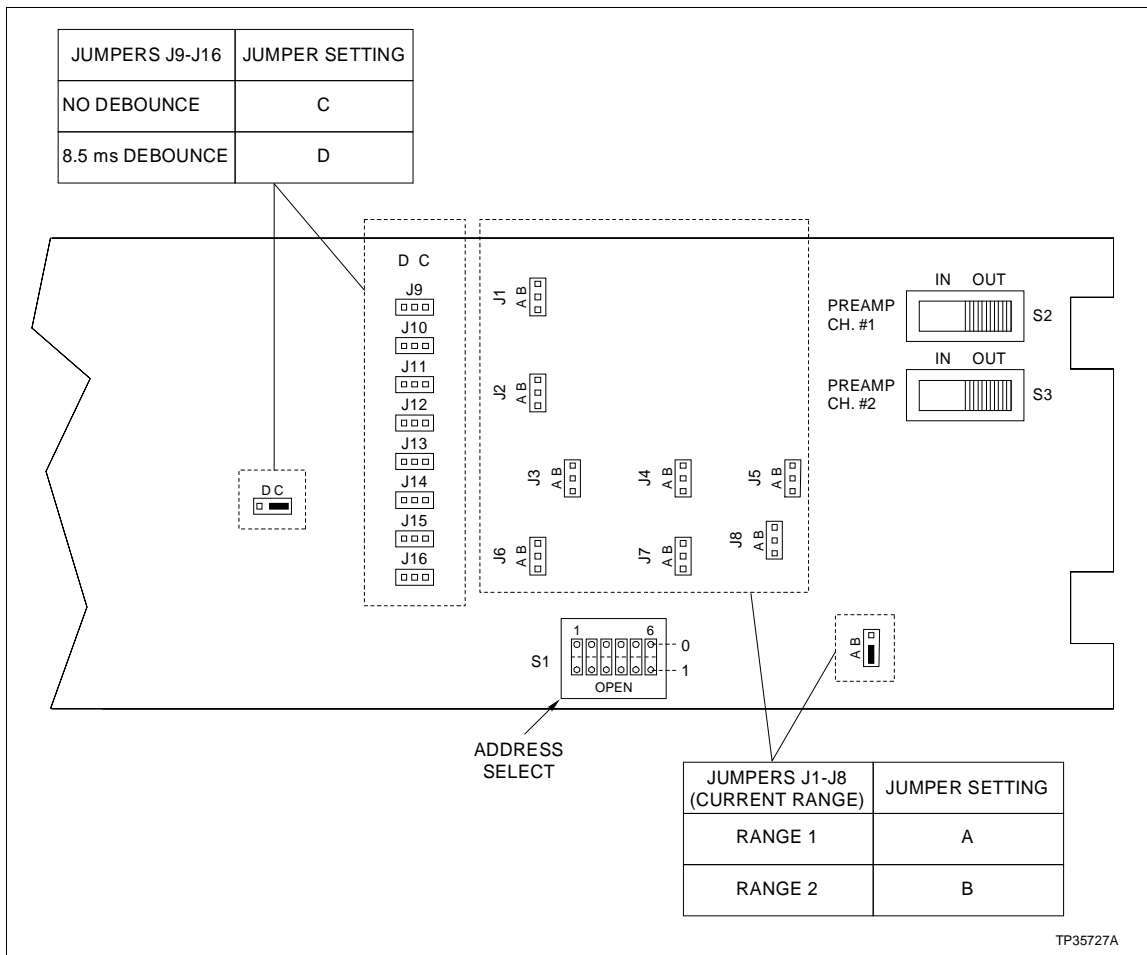

Figure 3-1. Switches and Jumpers
Before installation, set the address of the DSM and install jumpers to configure the inputs. Configure the Termination Unit (TU) or Termination Module (TM) to accept the field device signals. Figure 3-1 shows the positions of the switches and jumpers on the DSM circuit board:
Set the address through an eight position address dipswitch (S1), shown in Figure 3-1. The six right switch positions (3 through 8) of S1 set the six bit address. The unused positions (1 and 2) remain in the closed position (see Figure 3-1). Table 3-1 is a binary address conversion table for setting S1.
Use switches S2 and S3 to route the channel 1 and channel 2 inputs through preamplifiers on the DSM. S2 and S3 route low level input signals. With a preamplifier switched in, the respective input will register a logic 1 for a differential voltage of 25 millivolts peak, and allows inputs of up to 5 volts peak. Figure 3-1 shows the position of S2 and S3 on the DSM. To use a preamplifier for an input, move its slide switch to the in position, shown in Figure 3-1. S2 switches the preamplifier in or out of input channel 1 and S3 switches the preamplifier in or out of input channel 2.
Jumpers J-1 through J-8 set the input voltage levels and jumpers J-9 through J-16 set the DC voltage response time (speed). The DC inputs have two propagation (speed) choices to allow for debounce time: a slow response setting (8.5 millisecond debounce time) or fast response setting (no debounce time). There are three terminals at each jumper location. Refer to Tables 3-2 and 3-3 to select the jumper settings for your application; place a jumper across the pins shown in the table. Figure 3-1 shows the location of the jumpers on the DSM.
There are two input voltage ranges to select by jumpers J1 through J8. Range 1 will register a logic 1 for an input of 4 VDC up to 6 VDC. Range 2 will register a logic 1 input for a voltage level of 21 VDC to 27 VDC. The jumpers are plastic blocks that fit onto posts on the DSM board. Complete the jumper connections by putting the jumpers onto the two pins closest to the desired letter on the circuit board. See Figure 3-1. Table 3-2 lists the possible jumper connections.
Figure 3-1 shows the position of the jumpers on the DSM. Table 3-3 lists the Jumper connections.